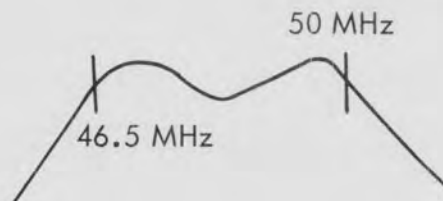

Figure 5-12. Response No. 2
- (3) Switch the attenuator to 23 dB and adjust C3, C8 and C12 for the response shown in figure 5-12.